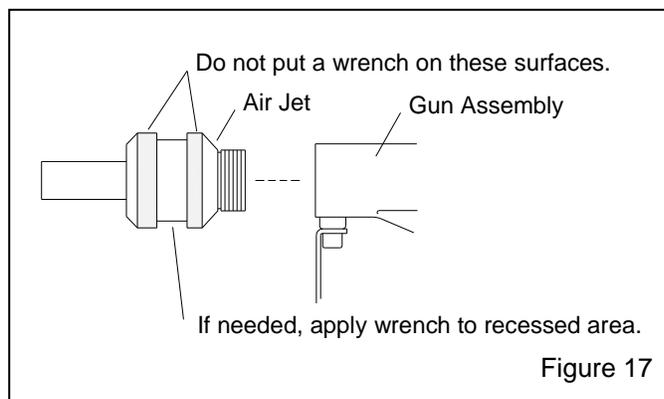

Figure 17
7.2.4 Remove the existing air jet from the gun assembly. **NOTE: Breakaway thread sealant is used on the threads between the air jet and gun. The sealant prevents parts from rotating out of alignment during operation.** The recommended method for removing the air jet is with a strap wrench or similar tool that will not damage the outside surface of the jet. If a suitable wrench is not available, use a pipe wrench or slip-joint plier on the recess of the jet as shown in Figure 17. **The conversion kit comes with a different type jet. If the existing jet will be discarded, it does not matter if the surfaces are damaged upon removal.**